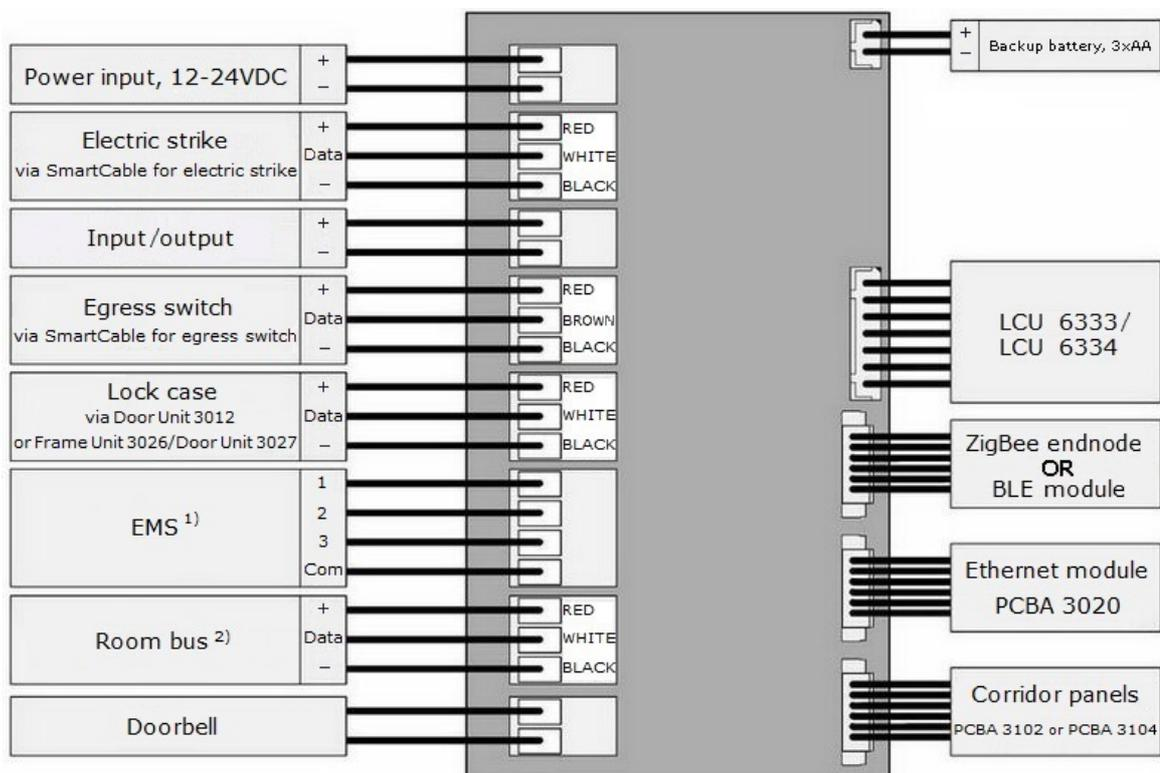

Figure 1
Allure is a locking and room status system with modular architecture. Several configurations are possible, and Figure 1 shows all possible connections to the *main control unit*; an in-wall mounted junction box which also contains an RFID *lock controller unit*, LCU 6333/LCU 6334. Chapter 2 describes mounting and connection of the different Allure parts, while chapters 3-7 give other information about the different parts. Chapter 8 describes troubleshooting and maintenance while the Appendix gives a quick reference of technical data for the different Allure parts and also for the room bus cable etc. **Note:** The Allure product range also includes the below items
- Note:** Some of the parts in Figure 1 are for future use; ask Product Marketing for details.
The main control unit is an in-wall mounted junction box consisting of a main PCBA (*printed circuit board assembly*) and an RFID lock controller unit (*LCU 6333/LCU 6334*). The main control unit can also be connected to one or more of the units shown in Figure 1.